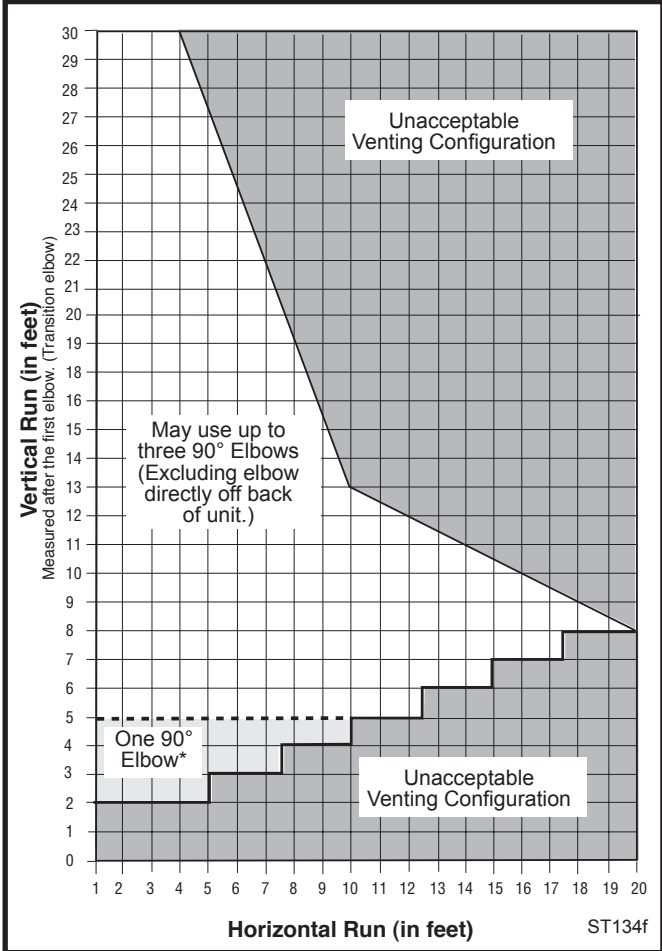

Fig. 7 Horizontal vent termination window.
The vent must rise vertically a minimum of 24" (610mm) after the first elbow directly off the back of the unit, before the next elbow. The horizontal run may extend up to 20' (6m) and include a vertical rise of up to 40' (12m). (Fig. 7) Horizontal termination must also meet the criteria shown in Figures 9 and 10.
- Approved vent systems must terminate above and including the heavy line in Figure 7.